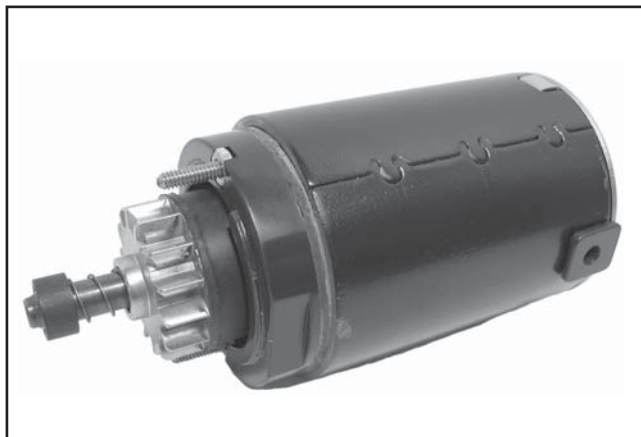

**Figure 7-24. Torquing Thru Bolts.**
7. Install the thru bolts and hex nuts. Torque to 3.3-3.9 N·m. (30-35 in. lb.). See Figure 7-24.